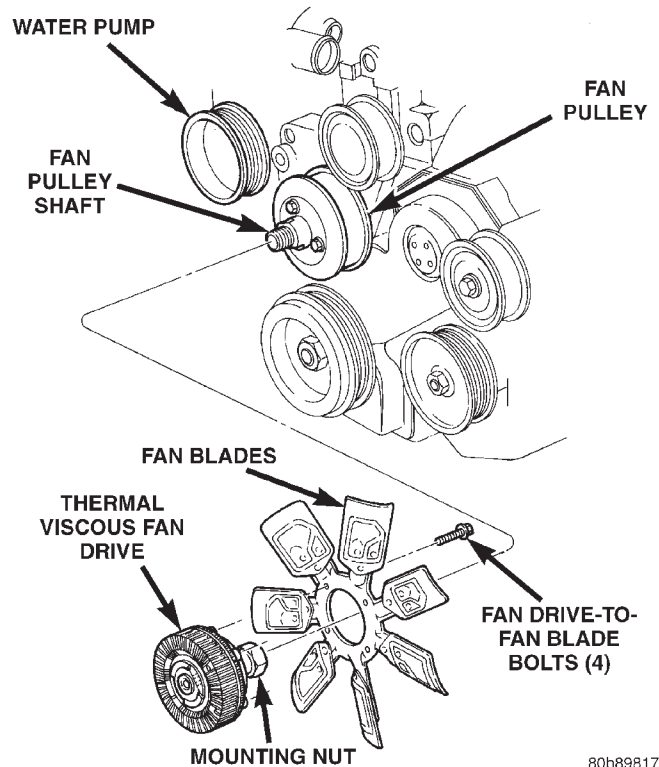

Fig. 26 Thermal Viscous Fan Drive and Blade Assembly
- (1) Remove fan blade and viscous fan drive as an assembly from the engine.
- (2) Remove fan blade assembly from viscous fan drive unit (four bolts) (Fig. 26).
- (3) Lay fan on a flat surface with leading edge facing down. With tip of blade touching flat surface, replace fan if clearance between opposite blade and surface is greater than 2.0 mm (.090 inch). Rocking motion of opposite blades should not exceed 2.0 mm (.090 inch). Test all blades in this manner.